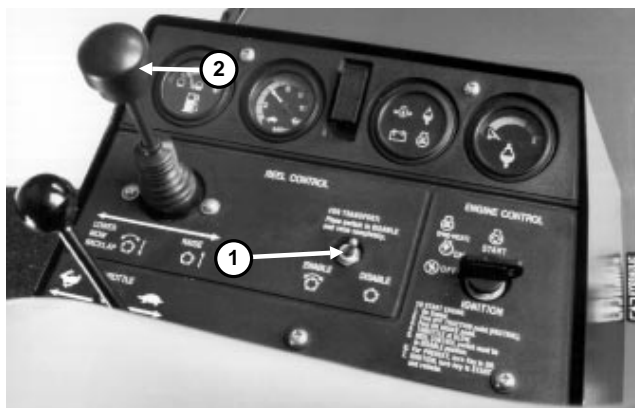

Figure 20
1. Put the machine on a clean, level surface, lower cutting units, stop the engine, engage the parking brakes, move the enable/disable switch to DISABLE and remove key from ignition switch (Fig. 20).